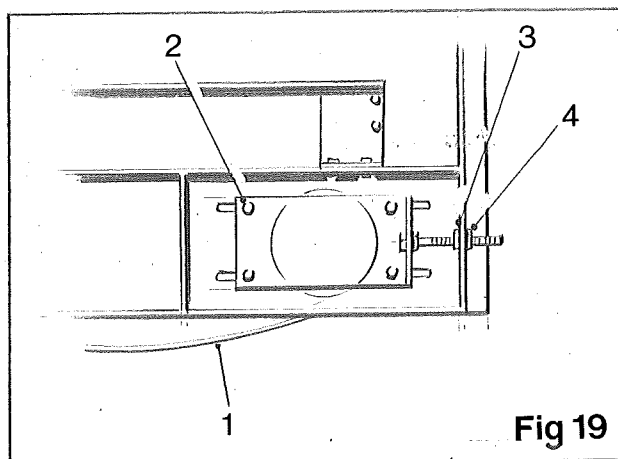

Fig 19
Adjustments in tension and tracking of the elevator feed web (item 1, fig 19) can be made by loosening the retaining bolts (item 2, fig 19) and the lock nut (item 3, fig 19) and then turning the adjusting nut (item 4, fig 19). Adjust both sides equally to ensure the web runs centrally in the frame.